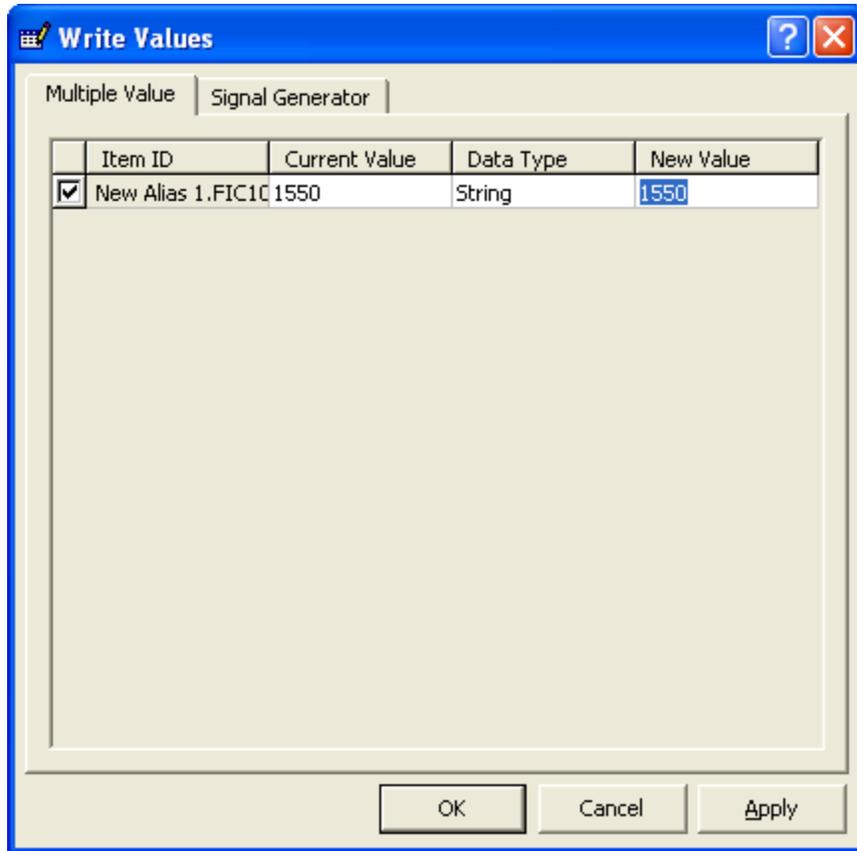

Figure 17 - Write Values Window
3. The **Write Values** window (Figure 17) appears.